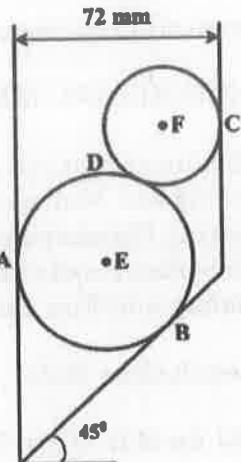

Figure 11 (b)
- (b) Two cylinders E, F of diameter 60 mm and 30 mm. Weighing 160 N and 40 N respectively are placed as shown in Fig. 11 (b). Assuming all the contact surfaces to be smooth, find the reactions at A, B and C.